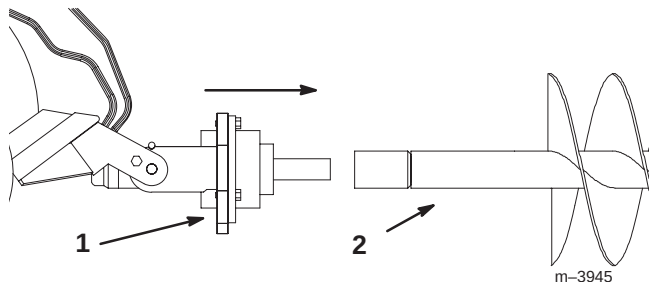

Figure 4
6. Maneuver the drive shaft into the end of the auger shaft or extension (if applicable) (Fig. 4).